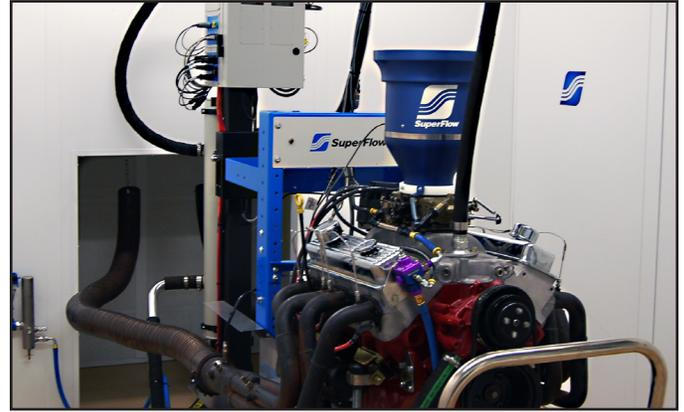

Figure 5.3 Engine Connected
2. Connect the tower supply hoses to the engine (Figure 5.3). Coolant is supplied to the engine from the lower connection on the CT700-NOP cooling tower. Coolant from the engine enters the CT700-NOP cooling tower at the top connection (other cooling towers may vary).